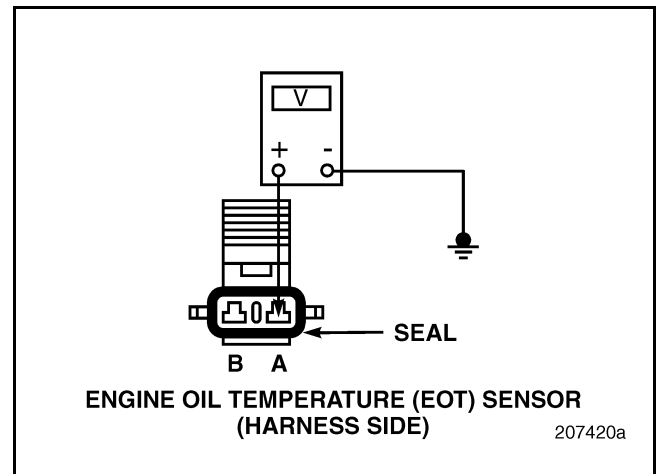

Figure 275
5. Measure the voltage between pin A of the EOT Sensor harness connector and a good ground (see Figure 275).